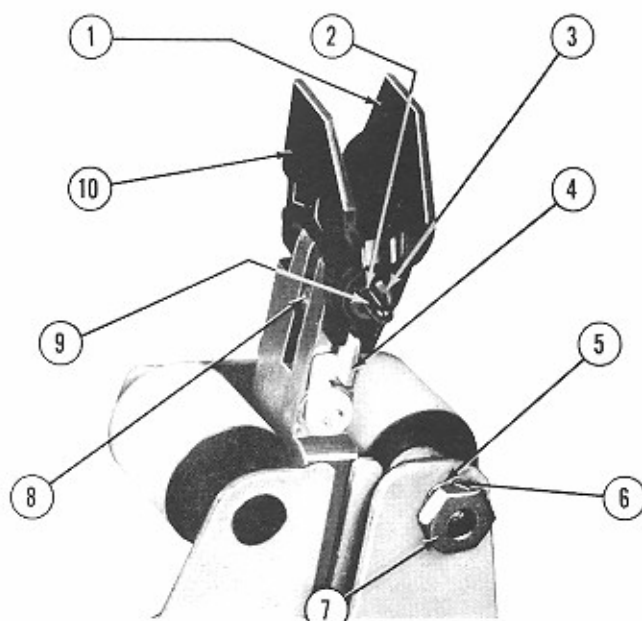
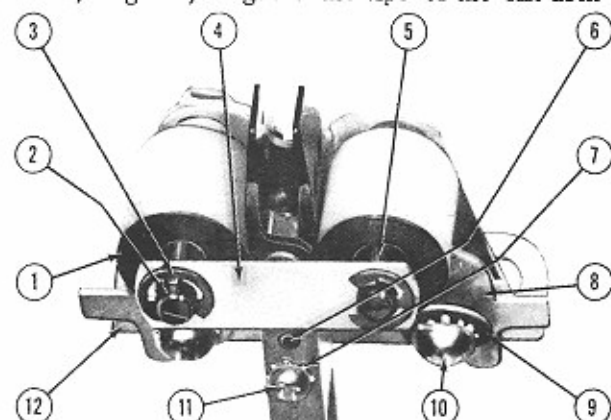

Fig. 62. BRACKET AND ROLLER ASSEMBLY, LIFT ARM GUIDE
Fig. 63. BRACKET AND ROLLER ASSEMBLY, LIFT ARM GUIDE
j. Record Lift Arm Roller Guides. (Figs. 62 and 63)
Mounted at the upper ends of the record lift arms are two guide tips, mounted on a pivot pin or (shaft, - Item 8, Fig. 62). These guide tips are spring loaded by a spring (Item 4) to spread them apart. With the lift arms down in their normal position these guide tips are squeezed together by the "bracket and roller assembly" (Fig. 63). One of these rollers is mounted on a stationary shaft which is part of the bracket and pin assembly (Item 12, Fig. 63) and the other is mounted on an eccentric shaft (Item 2). As the lift arm moves upward to take out a record, these guide tips spread apart, as they leave the compressing effect of the two guide rollers, to engage and raise the record. The pivot pin (shaft) of the guide tips extends inward from the lift arm to engage with the slot in the adjustable plate (Item 8, Fig. 63), when the lift arms are in their normal lowered position. This slot in the adjustable plate serves to accurately position the lift arm for indexing with the center of the record holders of the carrier.
(2) Adjust the eccentric shaft (Item 2, Fig. 63) to provide clearance of the guide tips, as they are raised and lowered between the rollers, of .003" to .006".
(3) Carefully position the adjustable plate (Item 8, Fig. 63) to guide the tips of the lift arm in